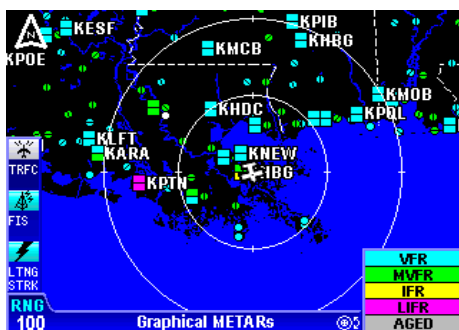

Figure 2-25
1. Press the **WX** Function Select Key until the FIS Graphics Page is displayed. If necessary, turn the Rotary Knob to obtain the Graphical METAR display similar to Figure 2-25. **Graphical METARs** will be displayed at the bottom of the display.